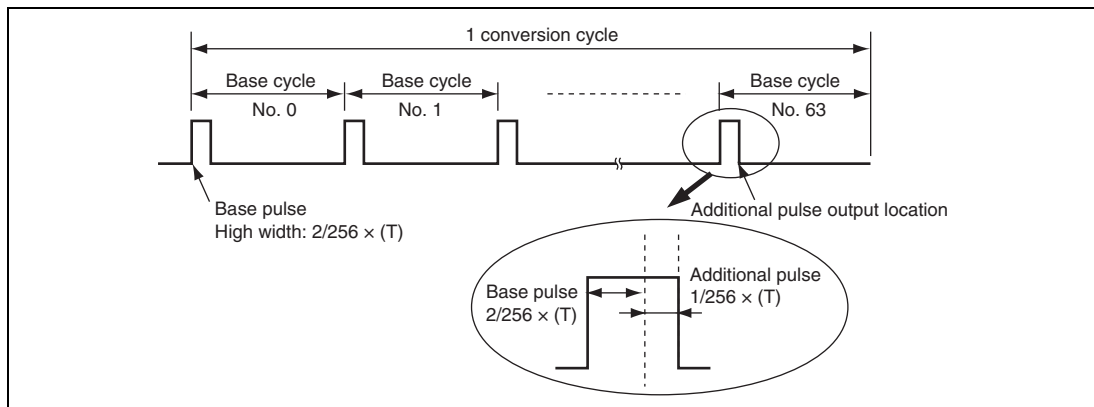

**Figure 9.7 Output Waveform when DADR = H'0207 (OS = 1)**
In this example, DADR = H'0207 (B'0000 0010 0000 0111). The output waveform is shown in figure 9.7. Since CFS = 1 and the value of the upper eight bits is B'0000 0010, the high width of the base pulse duty cycle is  $2/256 \times (T)$ .